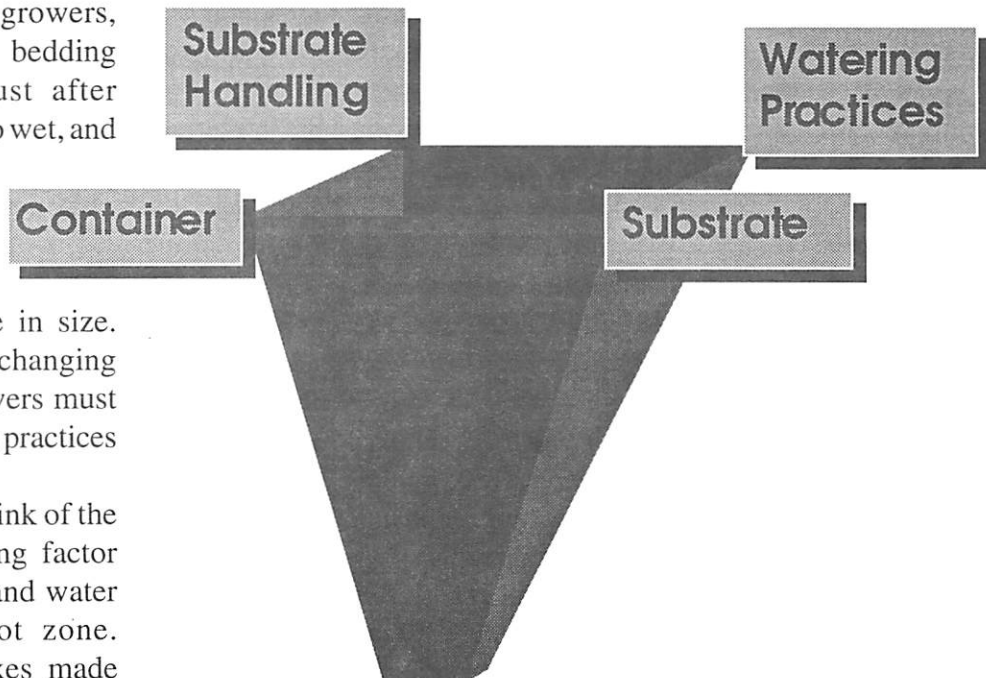

Figure 1. The four major factors which affect the air and water status in containers.
to their air and water values, as if these were fixed properties of the mix. They are not. There are four major factors which affect the air and water status in containers. These factors are like the four corners of a plug or tray cell; each is necessary in supporting the air and water content in that cell (Figure 1). The four corners are: ① the substrate (components and ratios); ② the container (height and shape); ③ substrate handling procedures; and ④ watering practices. Each of these four factors have a profound effect on air and water content.
By understanding the four corners outlined in Figure 1, you can begin to use them as management options. They should be considered